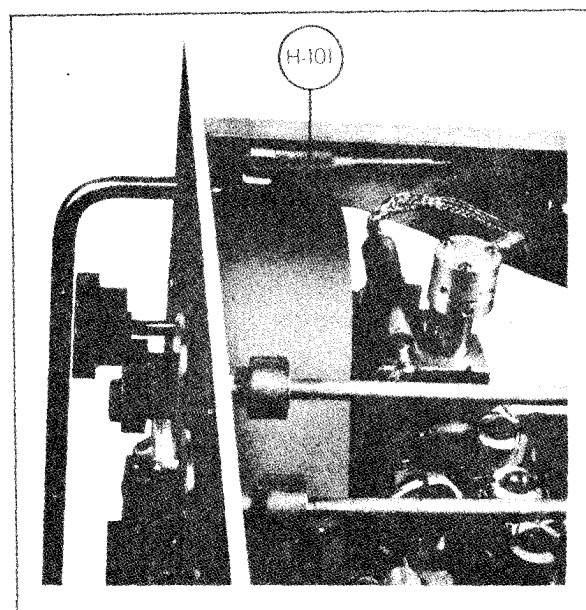

Figure 4-3. Mounting Location of Total H-101
(2) Unscrew and remove the housing support E-142E.
(3) Remove special tool H-101 from its mounting on left gusset of chassis (see figure 4-3).